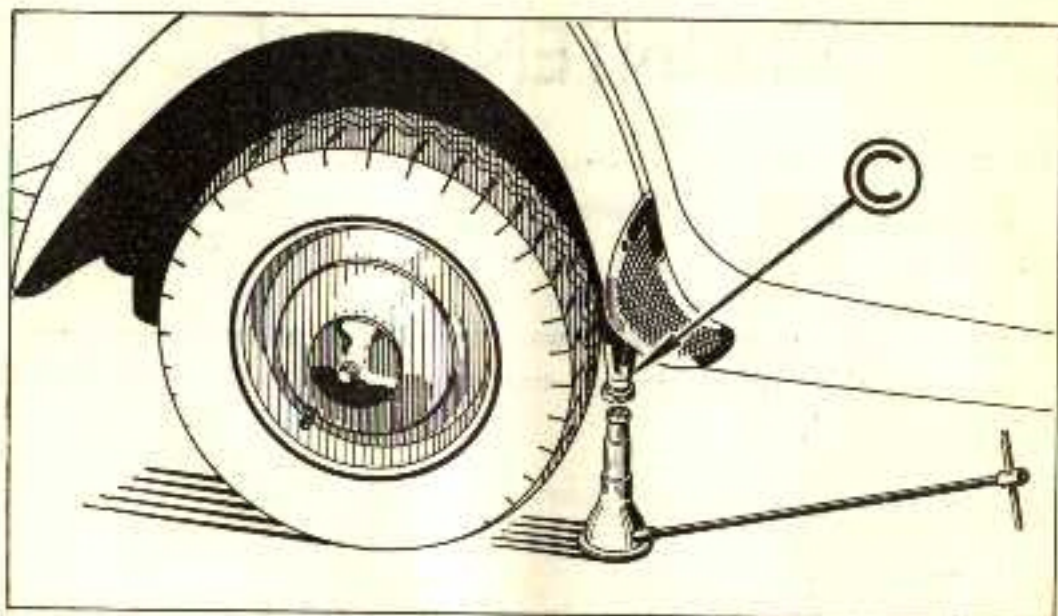

Fig. 6. — JACKING POSITION AT BACK.
- at the back, under the rear axle arm jack pads C (fig. 6).